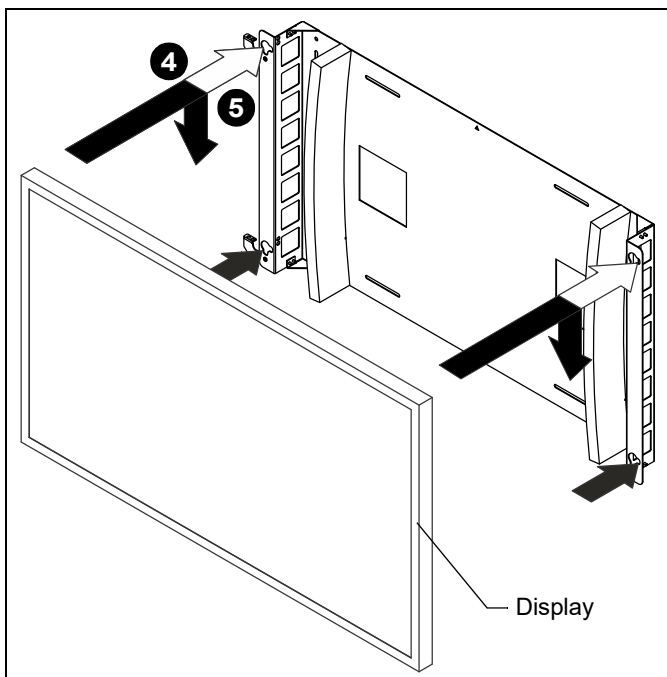

Figure 5
3. Align mounting buttons on display with teardrop mounting holes in mount. (See Figure 5)
4. Move display forward until recessed area of mounting buttons is positioned over lower area of teardrop mounting holes. (See Figure 5)
5. Lower display until recessed area of mounting buttons is seated in lower area of teardrop mounting holes. (See Figure 5)